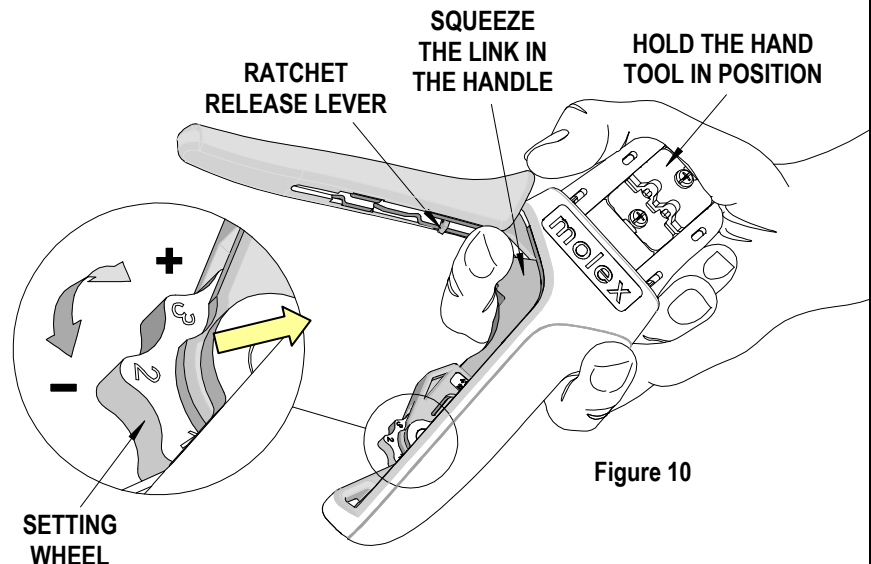

Figure 10
## How to Adjust Tool Preload (See Figure 10)
1. Hold the hand tool in the palm of your hand as shown in Figure 10. Using the index finger squeeze the link towards the top of the hand tool frame. This will release the preload adjustment wheel.